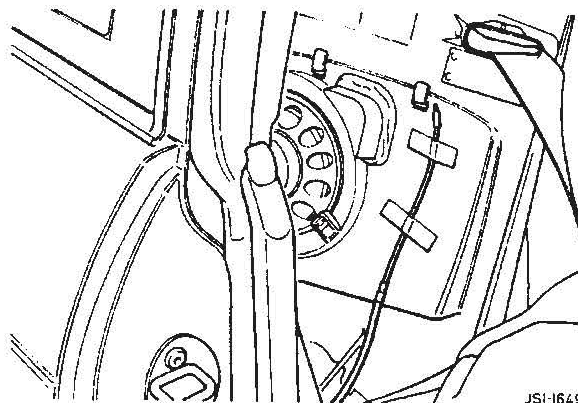

FIG 2
5. Attach the straightened antenna to the rear of the trim panel in vertical attitude, using suitable adhesive tape (refer to Fig 2).